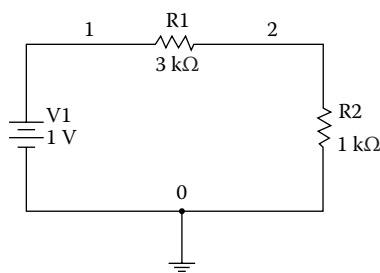

FIGURE P1.1
Problem 1.1 For the circuit shown in Figure P1.1, (1) use the Analog Discovery board to find the voltage across the 1 kΩ resistor. (2) As V1 increases from 1 to 5 V with 1 V increments, record the voltages across R2. (3) What is the relationship between the output and the input voltages?